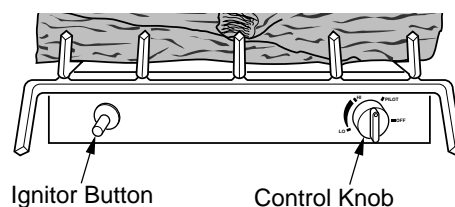

Figure 25 - Control Knob and Ignitor Button Location
4. Wait five (5) minutes to clear out any gas. Then smell for gas, including near the floor. If you smell gas, STOP! Follow "B" in the safety information page 15, column 2. If you don't smell gas, go to the next step.
5. Slightly depress and turn control knob counterclockwise to the PILOT position. Press in control knob for five (5) seconds (see Figure 25).